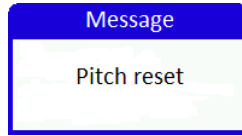

Figure 5: Setting pitch
- Pushing and holding the **up** (on 80mm) or **down** (on 3.5") button sets current pitch, see Figure 5. It will take the current pitch and set it as zero pitch. The change is not immediate and it takes ca. 5 seconds for AHRS unit to accept it. Once Emsis is switched off, this setting is forgotten.